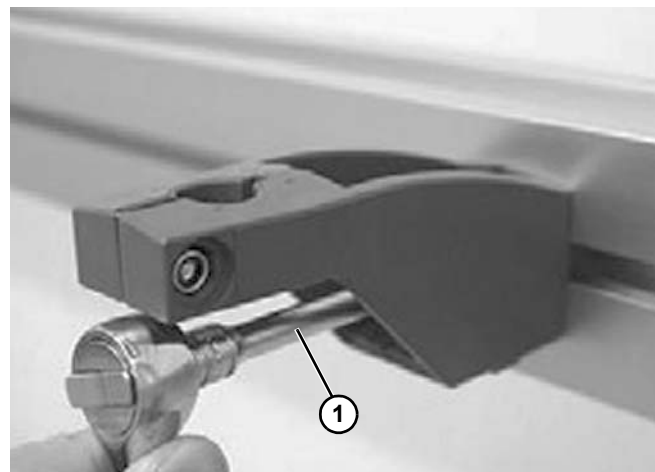

Figure 100
2. Attach the bracket onto conveyor beam and tighten with a socket wrench (**Figure 100, item 1**). Install upper and lower caps.